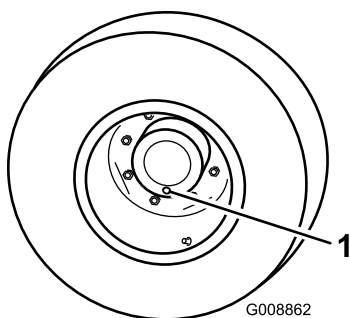

Figure 104
- With the machine on a level surface, position a wheel so a check plug is at the lowest (6 o'clock) position (Figure 104).